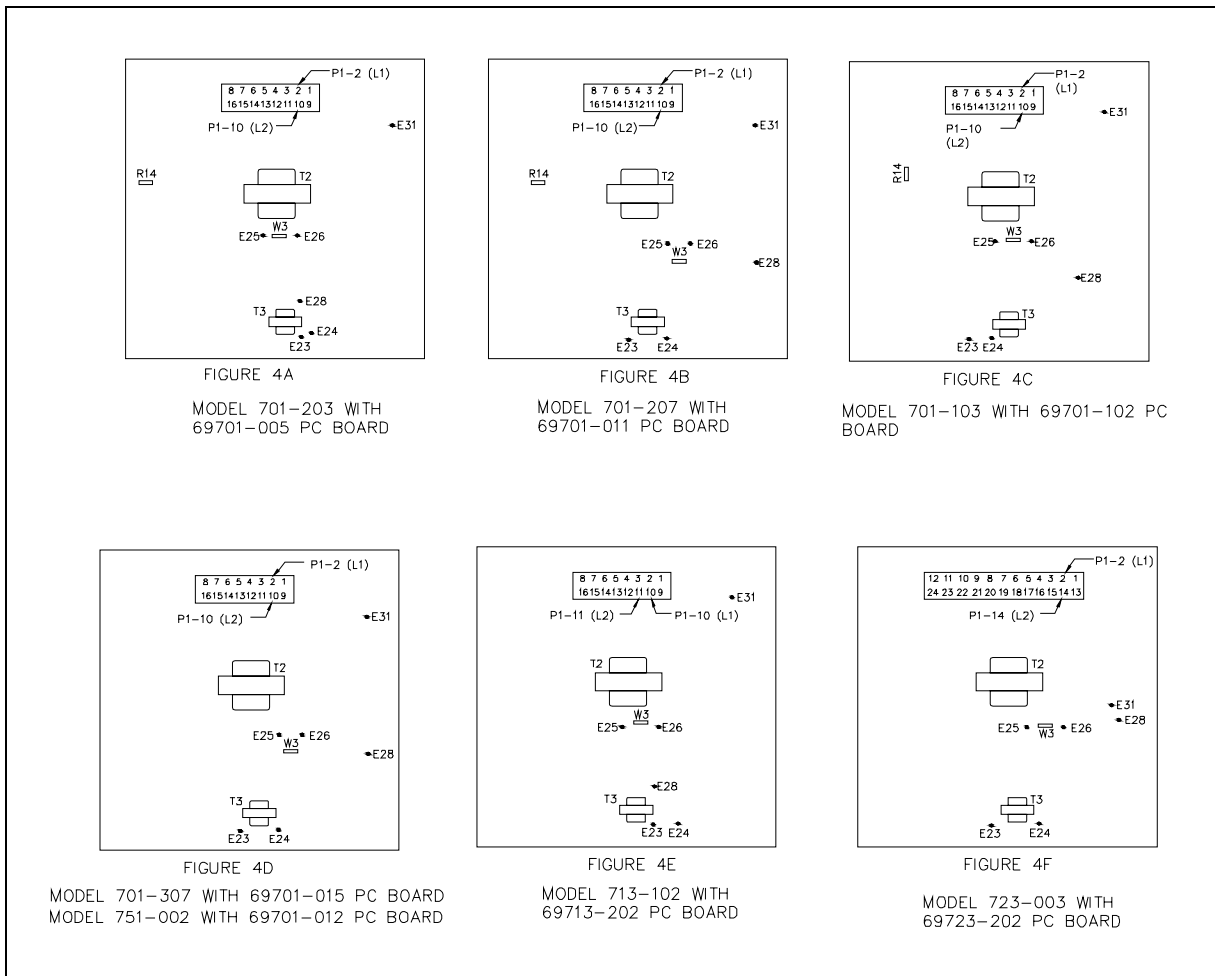

Figure 4. Wiring Details
10. Replace R14 by de-soldering and removing the old resistor (10,000 ohm, $\frac{1}{4}$ watt, 5% [brown-black-orange-gold]). Insert the 4,700-ohm, $\frac{1}{4}$ -watt, 5% (yellow-violet-red-gold) resistor provided in this kit into the PCBA, and re-solder it. Trim the resistor leads to avoid possible shorts after re-assembly. See Figure 4.
11. De-solder and remove the W-3 jumper (0-ohm resistor) between E25 and E26. See applicable model in Figure 4.
13. Wire connections from the VLC are to be soldered to the PCBA. See applicable model and PC board in Figure 4.
NOTE: "E" locations may vary slightly from what is shown in Figure 4; however, the connections remain the same.
Red/Blue P1 (L1) Refer to applicable model and PC board in Figure 4.
Blue/Red P1 (L2) Refer to applicable model and PC board in Figure 4.